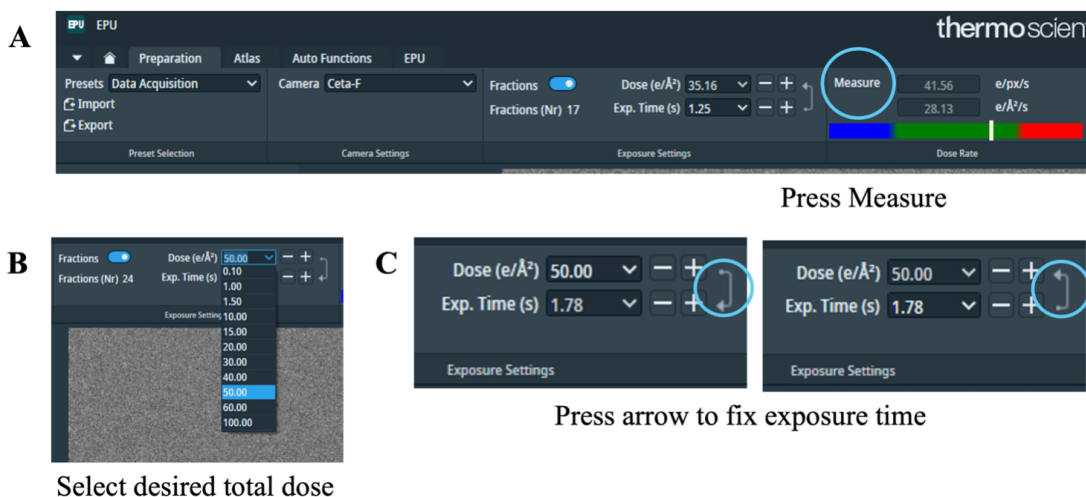

Figure 5: Determining total dose and exposure time.
- 4.10.2.3. Monitor the CLS interface and once the LN2 reaches the line marked *Sample transfer* (Figure 5, close the LN2 valve on the dewar.